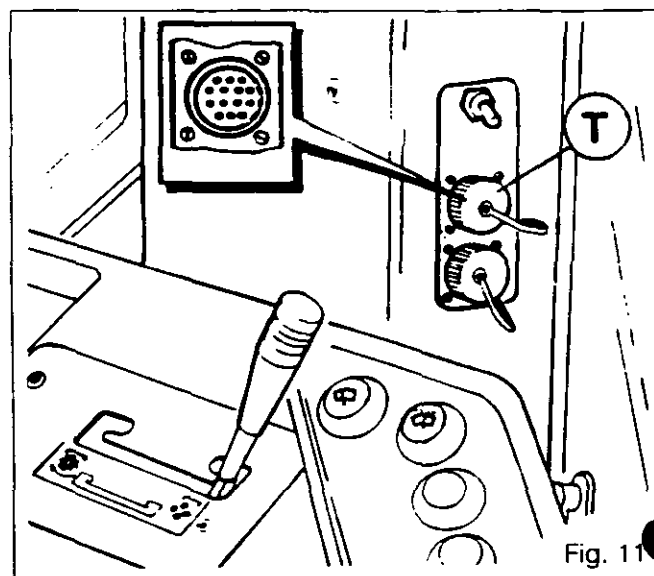

Fig. 11
By means of the socket (T) located on the right hand pillar of the cab (Fig. 11) and a switch (1) located on the implement counter display increases by one until each time this contact is made.